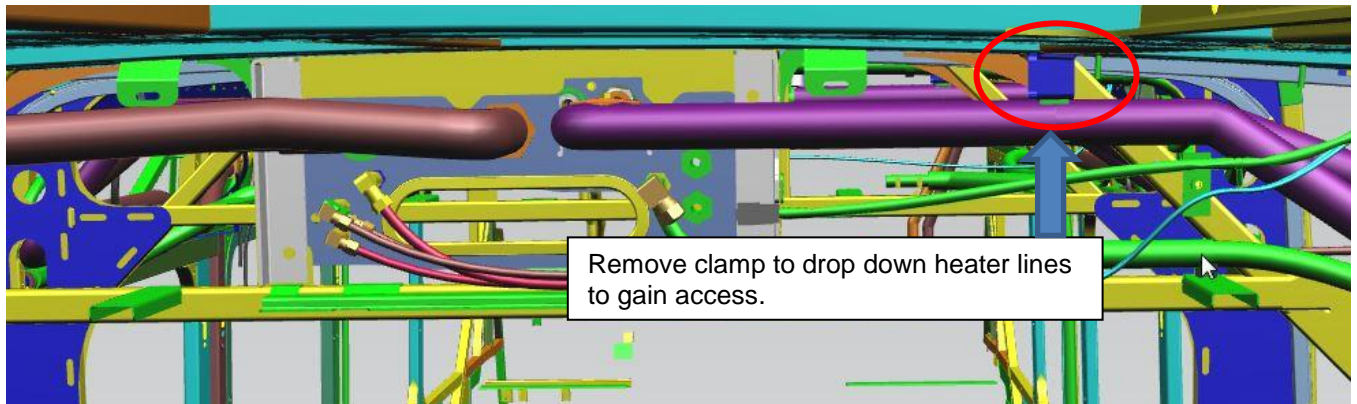

FIGURE 7A: VIEW OF THE AFFECTED WORK AREA.
12. Remove any components and disconnect any electrical that will be in the way. See Figure 7a & b.